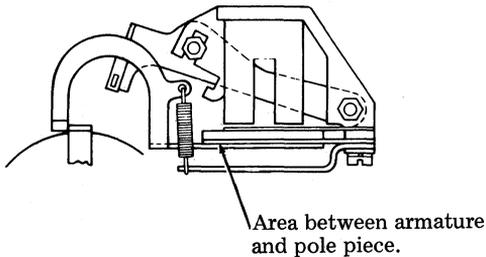

Fig. 24
4.03 Place a piece of cleaning paper between line feed armature and pole piece (Fig. 24). Manually hold armature against pole piece and pull paper out. Perform operation twice. Discard paper.